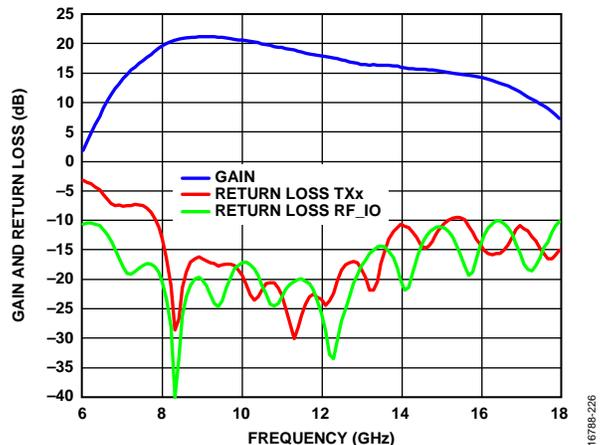

Figure 26. Transmit Mode Gain and Return Loss
14. Measure the gain and return loss on the network analyzer. A typical response is shown in Figure 26.